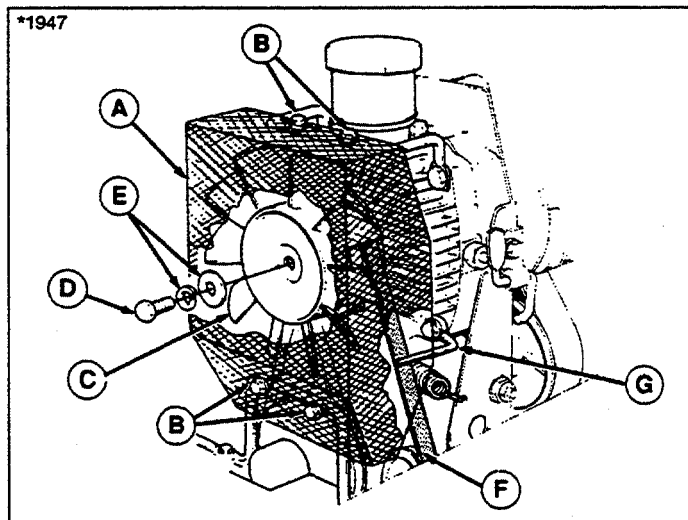
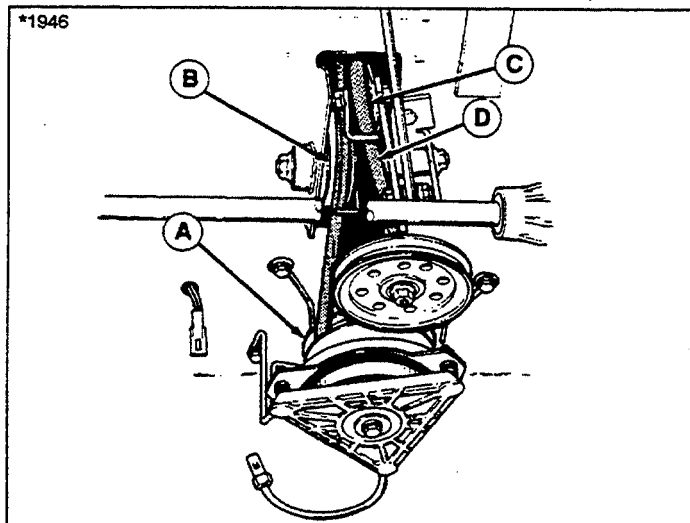

Figure 44 Hydro Pump
Figure 45. V Belt (Shown from Underside of Rider)
- See figure 44. Remove the screen (A) by removing four capscrews (B); two at top and two at bottom.
- Remove the fan (C) by removing one screw (D) in center. Keep washers (E) in proper order for reassembly.
- Slip the belt (F) from the transmission pulley.
- See figure 45. Remove belt (D) from idler pulley (C), fixed pulley (B) and engine pulley (A). Loosen belt stops as necessary.
11. Install the screen (A, figure 44) with two capscrews at top and two capscrews at bottom.